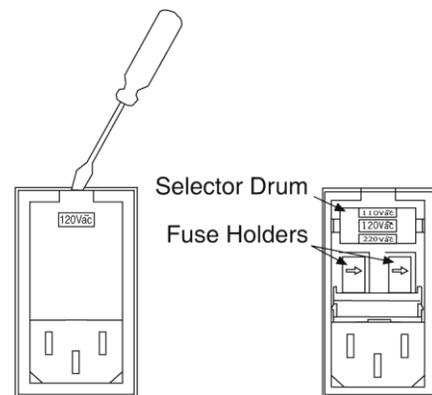

Figure 27. Power Input Module
1. As shown in Figure 27, place the flat side of a flat bladed screwdriver parallel to the back of the Controller and behind the small tab at the top of the power module, and twist the screwdriver slowly but firmly to pop the module open.